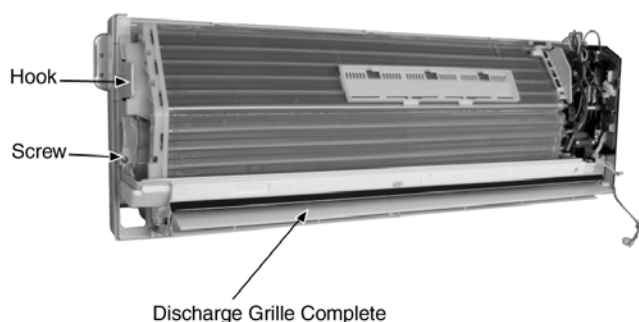

Fig. 7
- Remove the screw on the left side of the unit. (Fig.7)
- Pull the hook to the left and lift up the evaporator. (Fig. 7)
- Pull down the Discharge Grille Complete. (Fig.7)